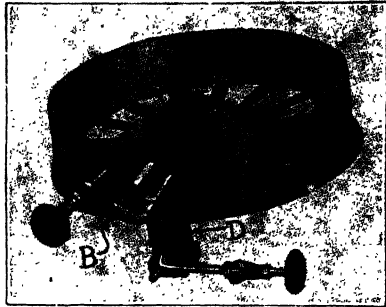

Fig. 36. Ofeldt Blue Flame Kerosene Burner
*Ofeldt.* The Ofeldt burner, Fig. 36, is designed especially for the use of kerosene as a fuel. Forming the foundation of the burner is